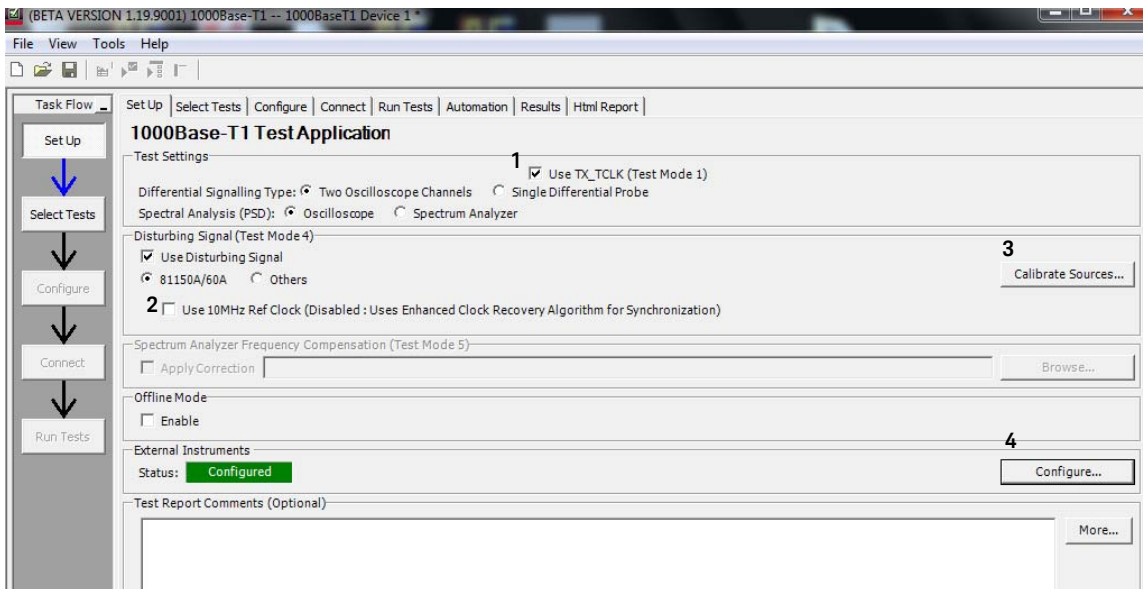

Figure 1-5 E6960A 1000Base-T1 Compliance Test Application Main Window
- 3** Figure 1-5 above shows the E6960A 1000Base-T1 Compliance Test Application main window.